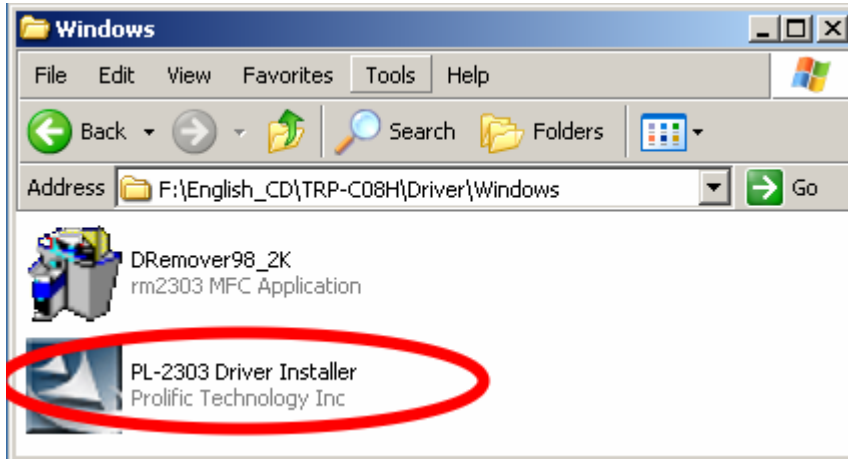

Fig.1
Step2. Install PL-2303 driver (See figure1, 2)